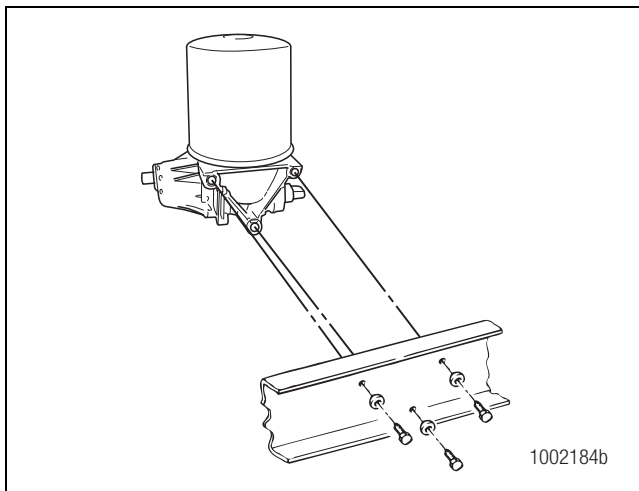

Figure 3.24
3. Remove the three mounting bolts. Remove the air dryer from its mounting location. Figure 3.24.